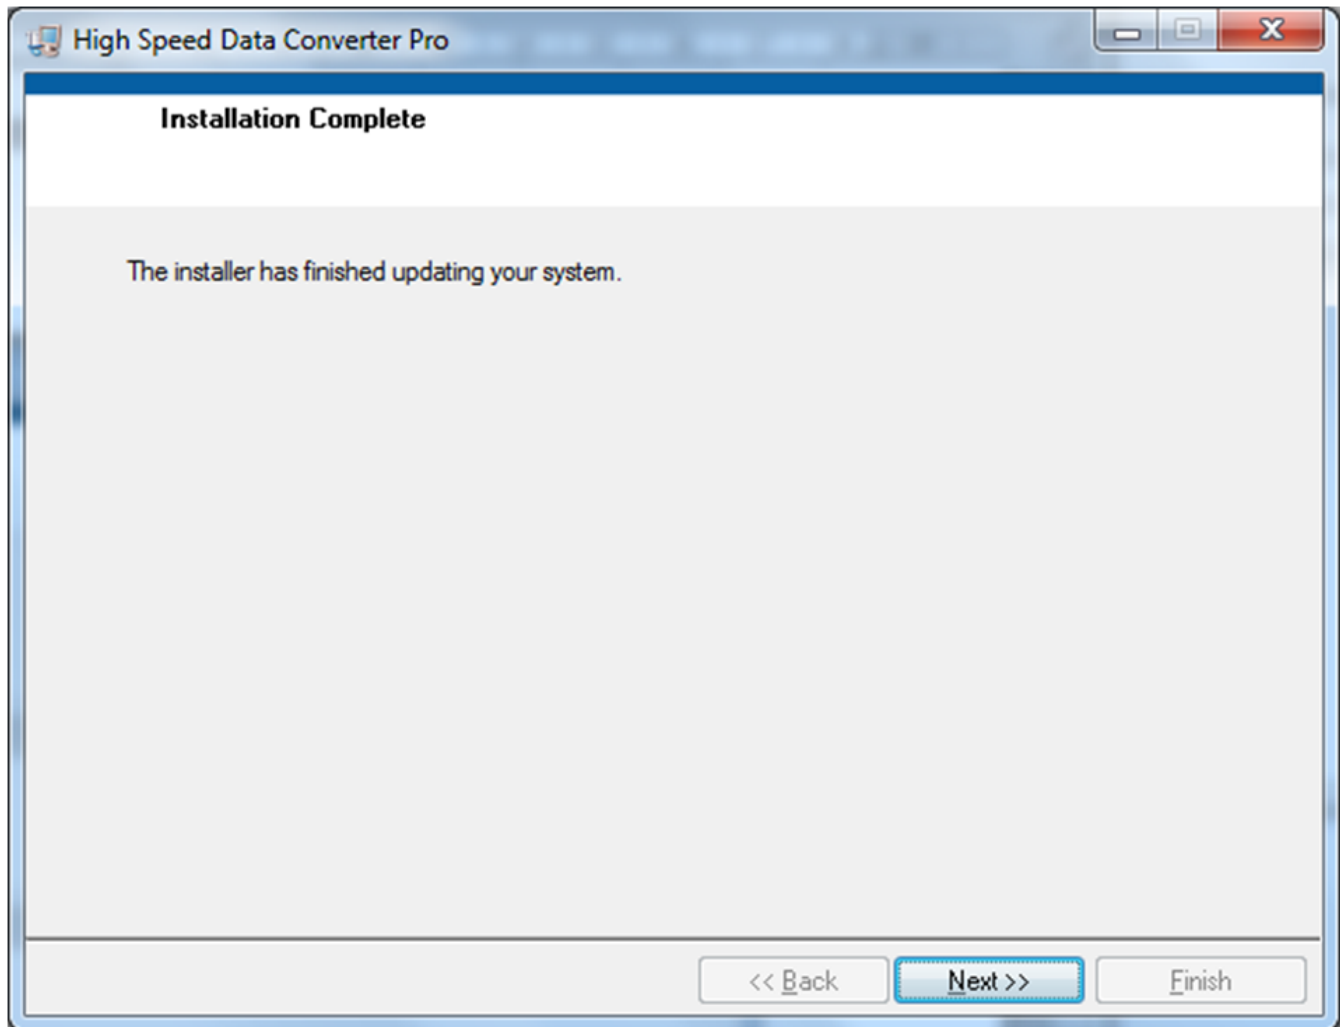

Figure 38. HSDCPro Install (Installation Complete)
- The window shown in Figure 38 appears indicating *Installation Complete*. Press the *Next* button.